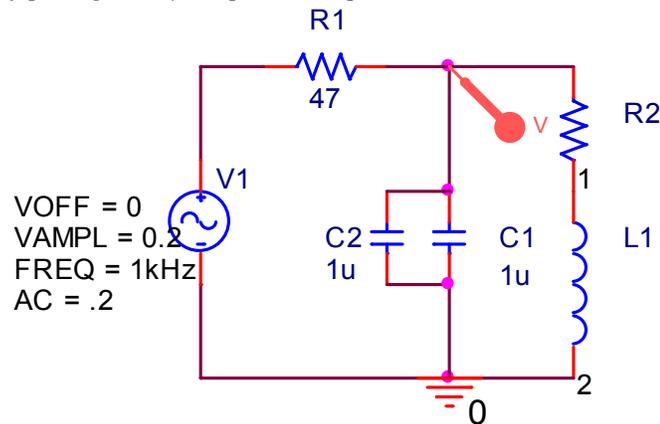

Figure B-1.
Using circuits to estimate inductance: Now we will use a better method to estimate the inductance of our coil. In the circuit in Figure B-1, V1 is the IOBoard function generator. R1 is from the kit. R2 is the wire resistance of the coil and L1 is the inductance of the coil. This experiment works well with a 2μF capacitor, which isn't in your kit. So create a 2μF capacitor by putting two 1μF capacitors in parallel.
- Set up the circuit in Figure B-1 on your protoboard. Use the capacitors you measured and the inductor you built. Be careful to make sure that the inductor is making contact inside the protoboard. Do not remove the inductor from the tube.